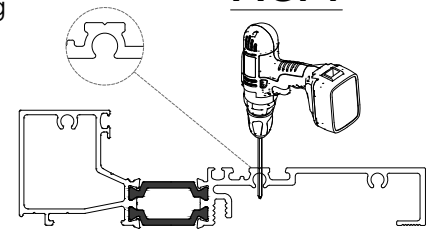

FIG. 2
- Drill clearance holes using V-groove as a guide. **See FIG 2.**